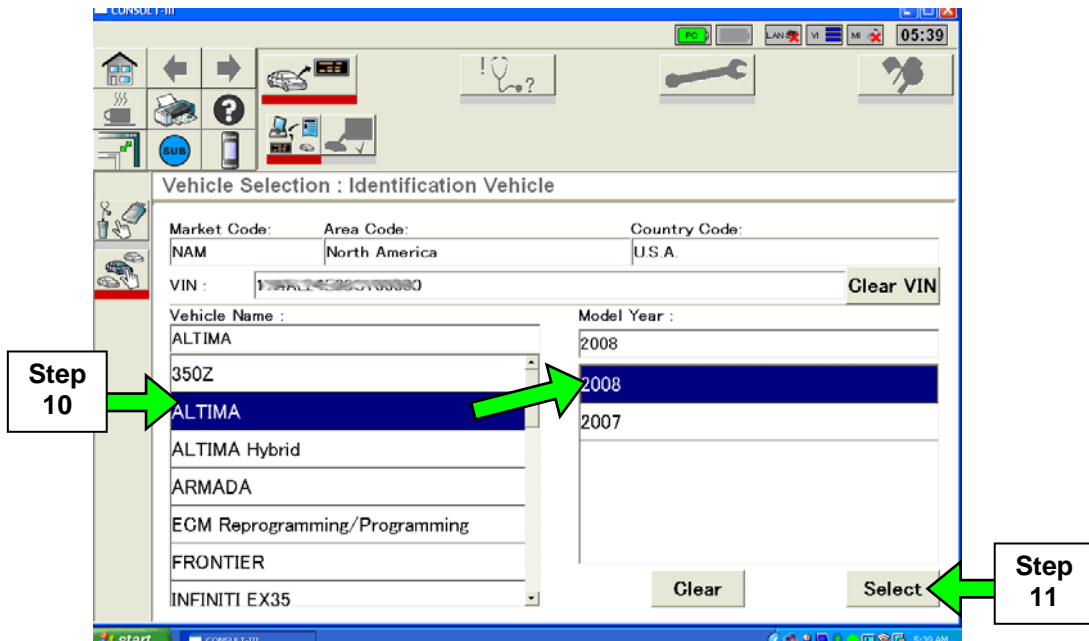

Figure 2
10. Select Altima and the the applicable model year from the list. (See example in Figure 2.)